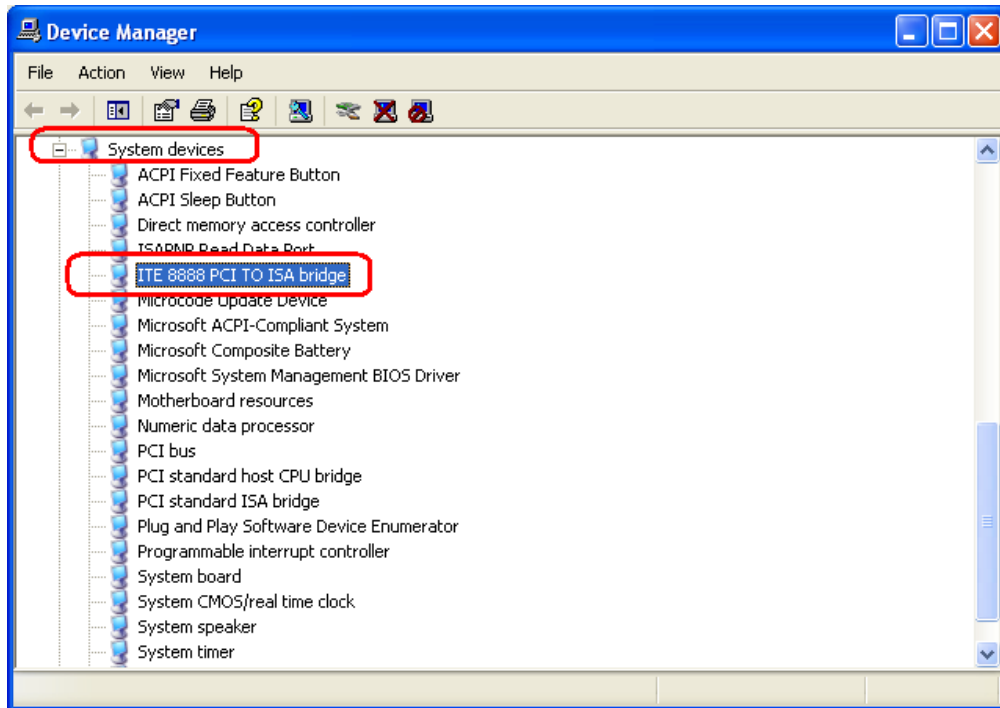

Figure 7-48: Device Manager Update
Step 14: The Device Manager refreshes and the PCI Driver can be seen in the System Devices option. See **Figure 7-48**.